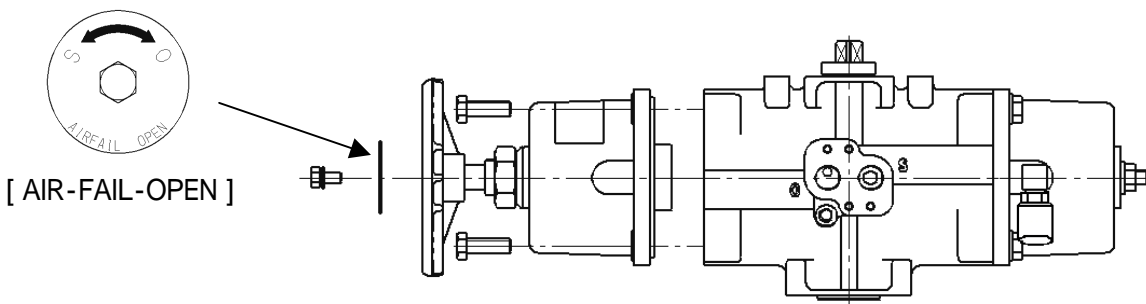

Fig.17
- (5) Pressurize the actuator with the actual operation pressure through Port [O] and [S] and check external air leakage with soap solution. Wipe off the soap solution afterwards.
- (6) Energize the actuator for trial operation to ensure trouble-free function. We recommend to carefully read Section 8.4 of this document before manually operating spring return actuators.
8.3 In the case of Type FAS spring return actuators with manual operator units (AIR-FAIL-OPEN mode), FSW units shall be mounted on the reverse side of actuators as shown in Fig.17.